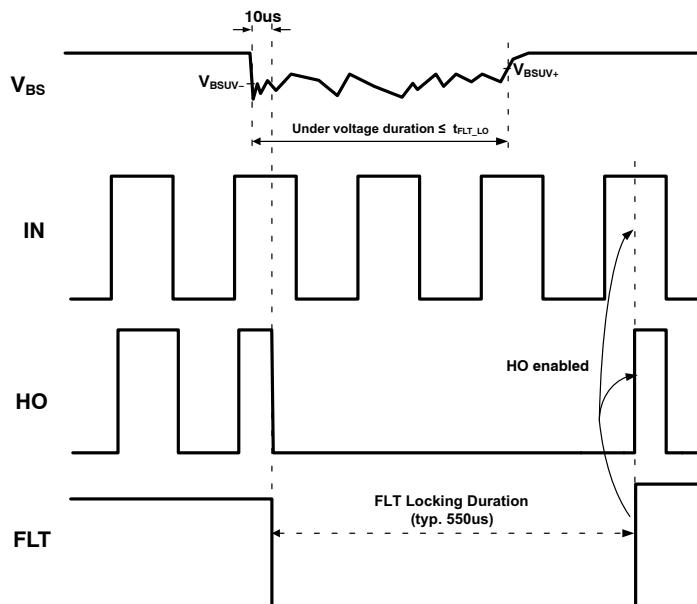

Figure 17. Under-Voltage Condition Shorter than FLT Locking Duration
- ◆ If the under-voltage condition lasts for a duration shorter than the FLT locking duration, the fault pin is released after the FLT locking duration is over, upon which the driver output will begin to follow the input logic as expected (see Figure 17).